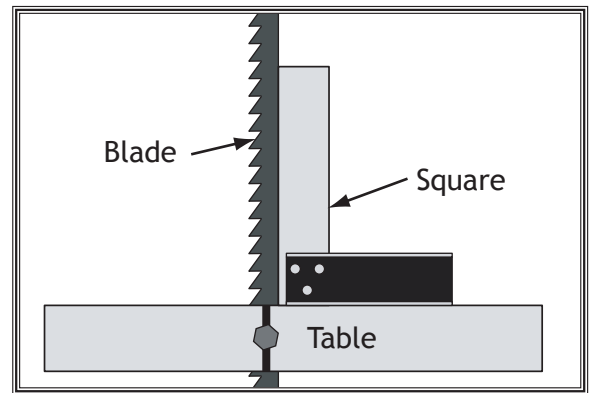

Figure 109. Adjusting table perpendicular to blade (side to side).
2. Place one edge of square on table and other edge of square against blade side, as shown in **Figure 109**.